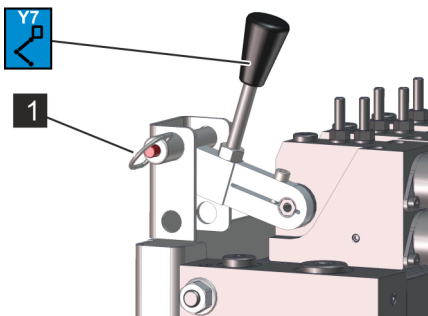

Fig. 189: Locking pin
12. Remove the locking pin (Fig. 189/1) and move the valve (Fig. 189/Y7) into the centre position.